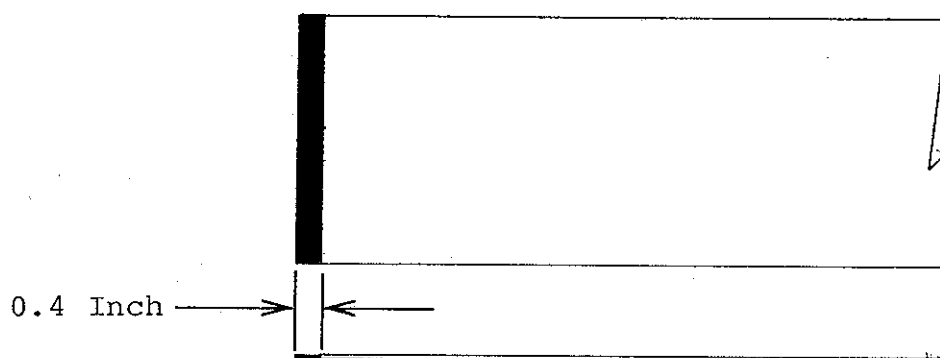

Figure 5. Stripping the Inter-Layer Shield
3. Strip the shield insulation for a length of 0.4 ± 0.1 inch (Figure 5).